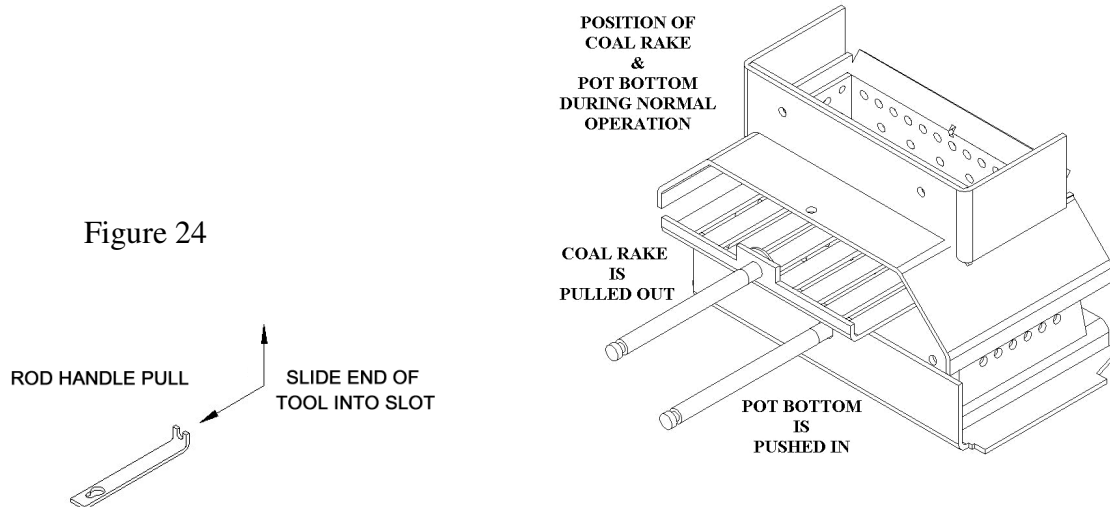

Figure 24
1. **The Coal Rake.** The first step is to push the coal rake in and separate the coals from the clinker. Once this is done, open the door and add a ¼ cup of pellets on top of the coals. To push in the Coal rake, use the Rod Handle tool that came with the unit. (See figure 24 and 25).
5. Dropping the coals back into the burn pot. At this time pull the coal rake back out of the burn pot to drop the coals in the pot. *See position of Coal Rake & Pot Bottom in figure 24 on page 37 for normal operation.*